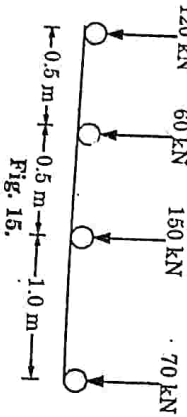

Fig. 15.
- b. The load system shown in Fig. 15 moves from left to right on a girder of span 10 m. Find the absolute maximum bending moment for the girder.
Given : Span of beam,  $L = 10$  m, Loads = Given Fig. 15.